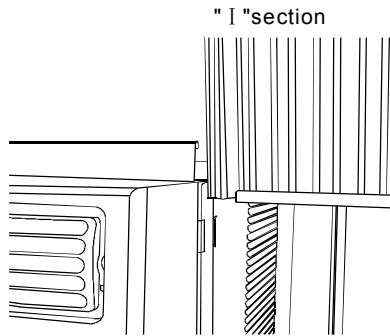

Fig. 2
- B. Slide the free end "I" section of the panel directly into the cabinet as shown in Fig. 2. Slide the panel down. Be sure to leave enough space to slip the top and bottom of the frame into the rails on the cabinet.